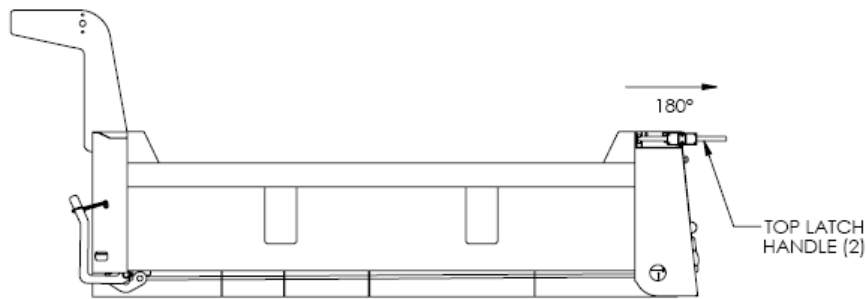

FIGURE 6
The tailgate is opened top down by using the left and right side top latch handles located at the rear of the body (Figure 6).
- a. Rotate the top latch handle rearward until the handle points straight back as shown in Figure 6.